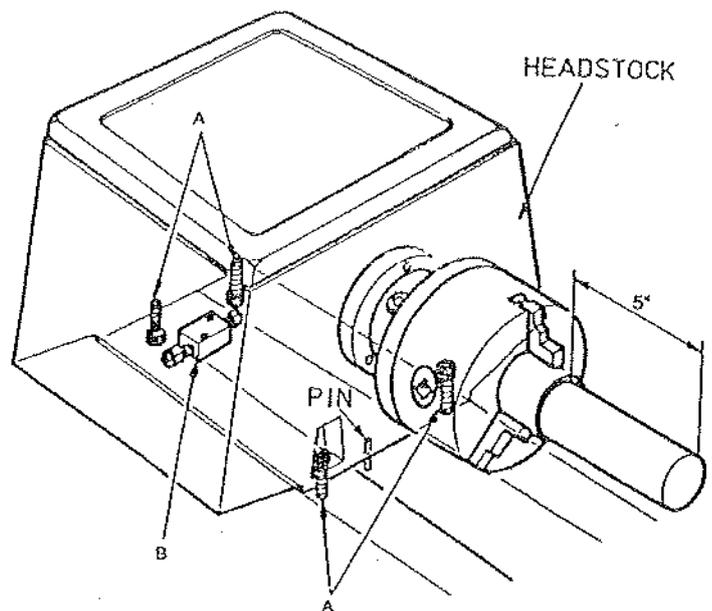

Fig. 23
6. If the measurements are not the same and adjustment is required, loosen hex socket cap screws (A, Fig. 23) which holds the headstock to the bed. Do not loosen completely; some drag should remain.